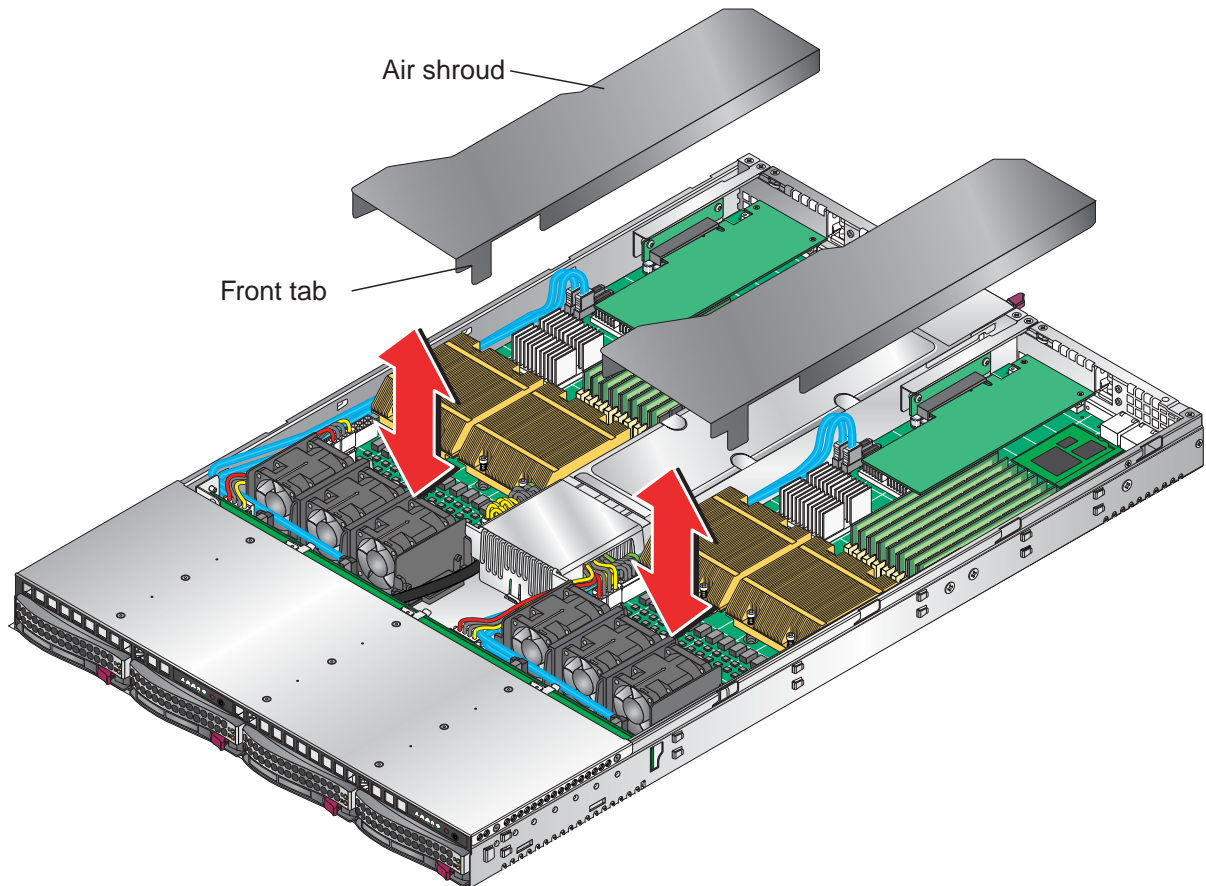

Figure 4-10 Install Air Shrouds
1. Position each air shrouds as shown in Figure 4-10.